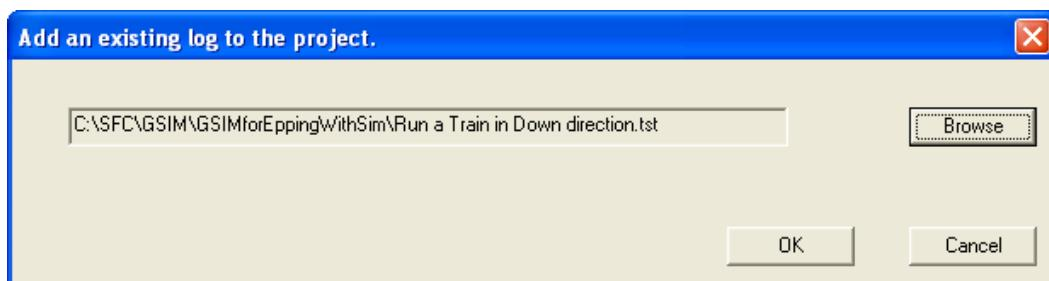

Figure 4.38 “Add existing log to project” dialog box
- click Insert Existing Log. GSIM will invoke a dialog box similar to figure 4.38;
- browse for an existing log file. The filename will be displayed in the read-only text box. Figure 4.38 shows adding a log file named “Run a train in DOWN direction.tst”;